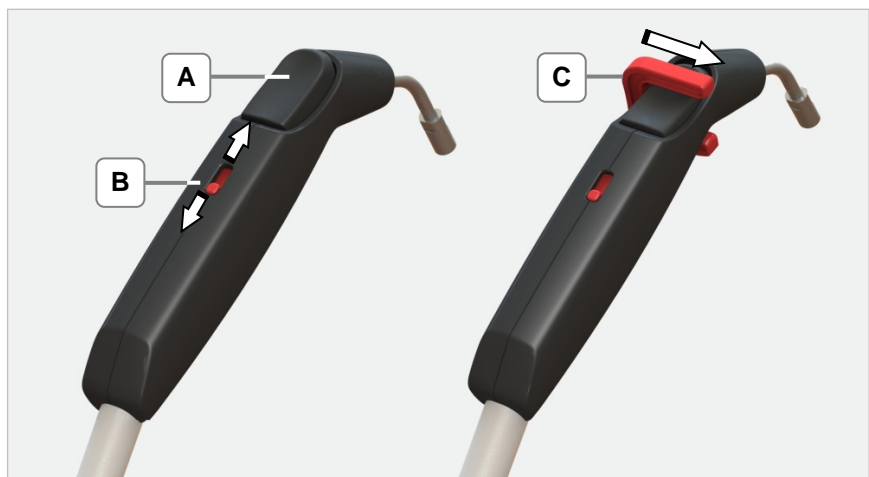

Fig. 3.8. Hand piece without and with actuation clamp
1.1.2 For draining the residual pressure, lock the steam button on the hand piece using the actuation clamp (*Fig. 3.8.C*) or keep pressed manually until no more steam escapes (approx. 40 - 50 seconds).